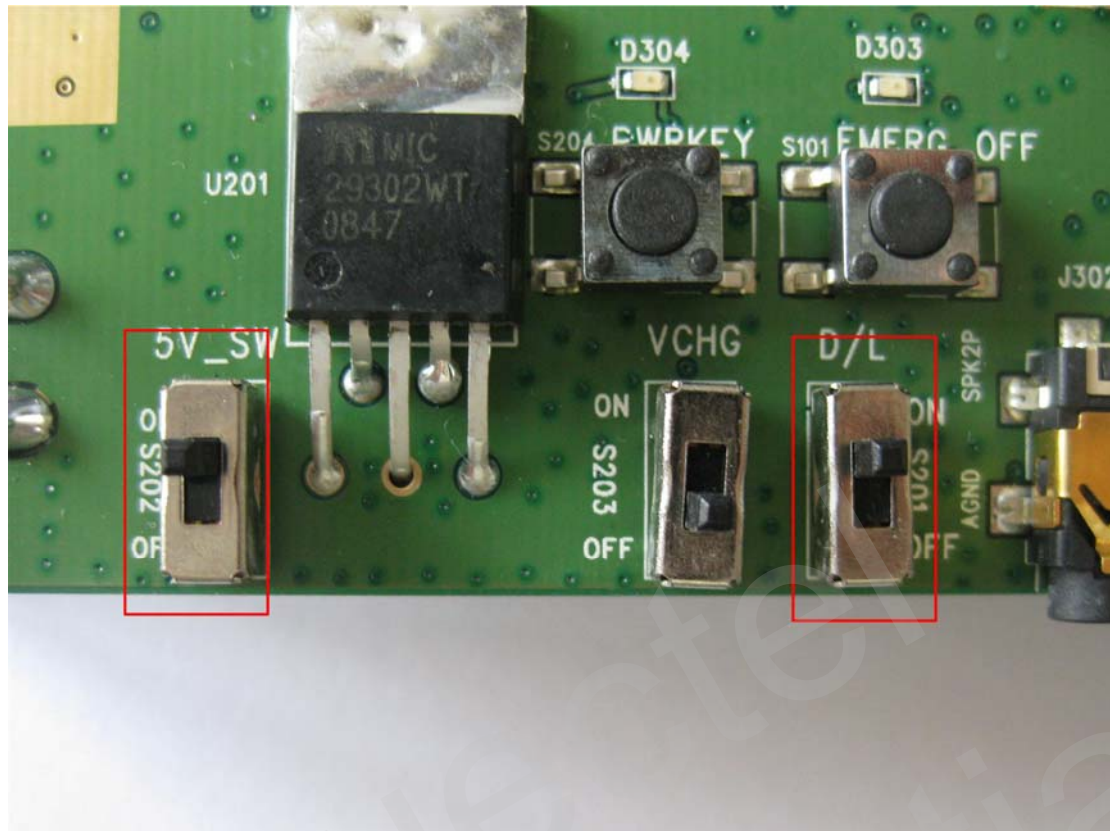

Figure 19: Switches state for firmware upgrade
- (1) Start the Firmware Upgrade Tool in the PC.
- (2) Press the **START** button in the Firmware Upgrade Tool.
- (3) Switch the S3 and S1 in the EVB to **ON** state as shown in Figure 19.